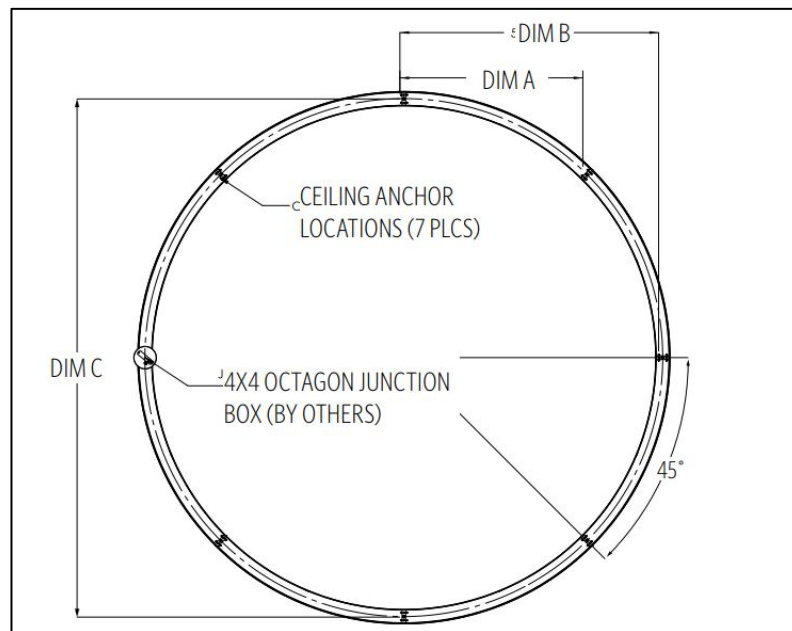

FIG. 7 - TOP VIEW SHOWING MOUNTING VIEW INFORMATION
1. Mark location for the NON-POWERED MOUNTING POINT according to the MOUNTING INFORMATION TABLE and FIG. 7.